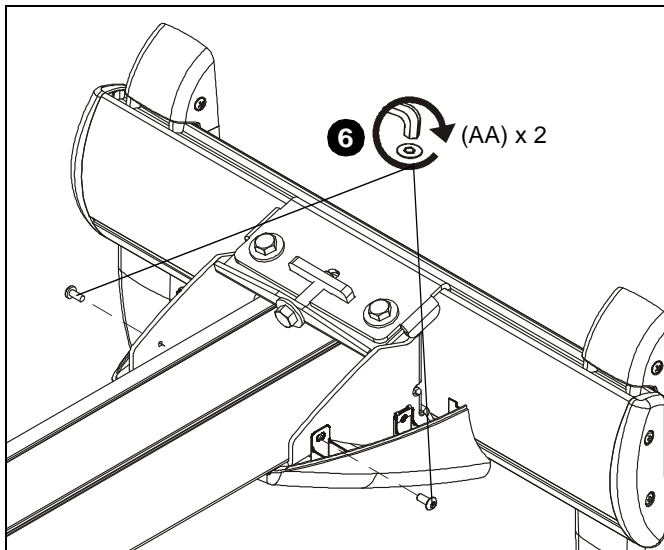

Figure 45
- Install two 8-32 x 3/8" button head security screws (AA) into lower cover. (See Figure 45)